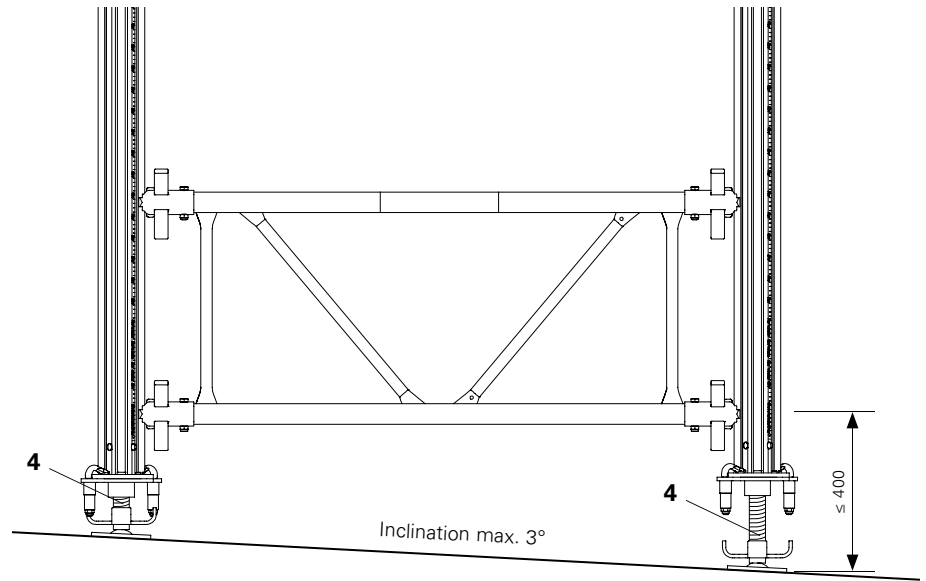

Fig. A2.12
The Tilting Base MKF (4) with the quick-action clamp coupling can be pivoted 3° on all sides. This means that MULTIPROP props can be positioned on inclined surfaces. (Fig. A2.12)